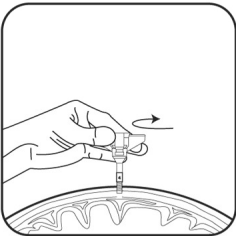

Figure 4: Advance Bolt Assembly/Bolt Stop and screw in.
- ⇒ Advance the Bolt Assembly/Bolt Stop and screw it in (Fig. 4).